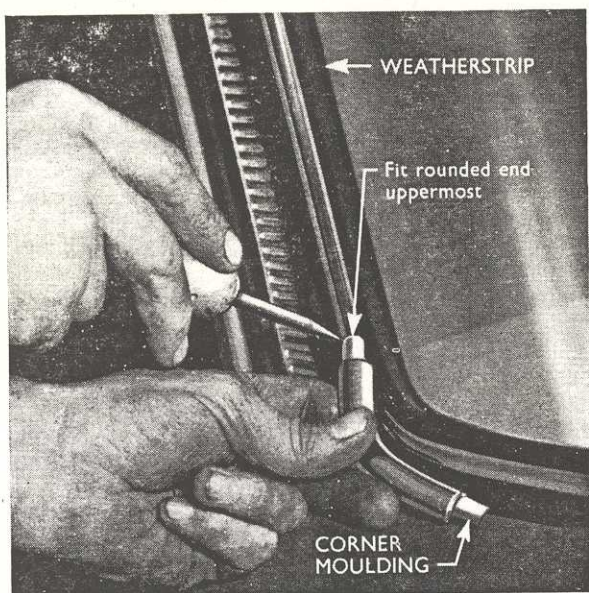

Fig. 9
12. Care must be taken when fitting the small bottom corner mouldings (Part Nos. 206E-7342416/7-A) as they can be fitted in the wrong locations. A close examination of these parts will show that one end of the moulding has rounded corners (see Fig. 9) and the rounded end must be fitted uppermost. Failure to observe this will give a badly fitted moulding at this point.